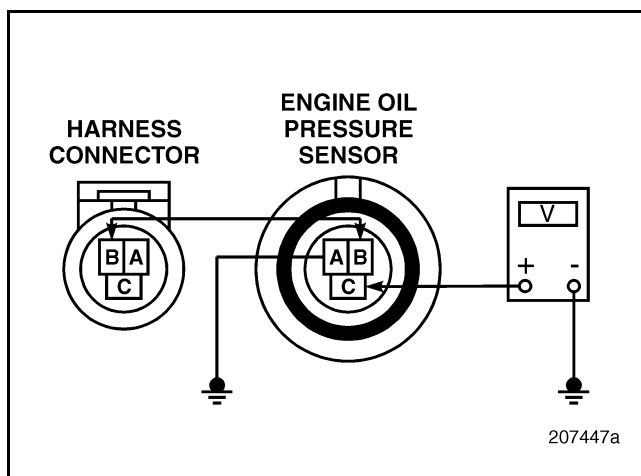

Figure 39
6. Measure the voltage between EOP Sensor pin C and a good ground at various pressures between 0 psi and 80 psi (see Figure 39). The correct pressure and output voltage specifications are shown in the table below.